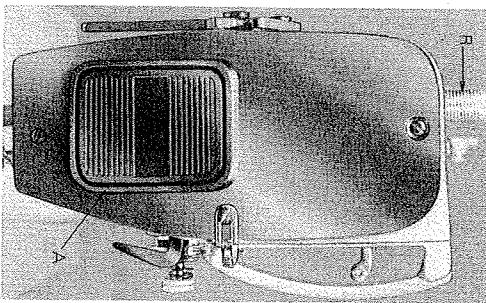

Fig. 13-1
- 1) Loosen the regulator screw (R) (Fig. 13-1) until the pressure of the spring is completely released.